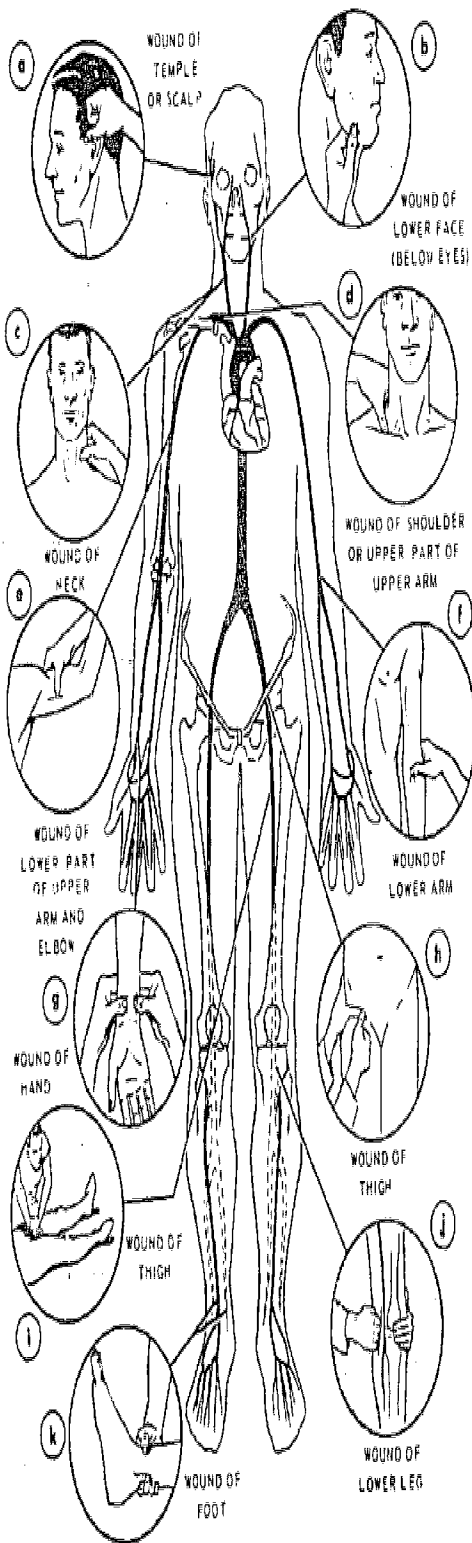

Figure 14. Pressure points for temporary control of arterial bleeding.
b. *Pressure points.* A pressure point is the place where the main artery to a wound lies close to the skin, and over a bone. Figure 14 shows you the main pressure points. To stop bleeding, press hard with your fingers on a pressure point between the wound and the heart. This is not a good method to use for a long time. You may want to use it just until you can get a direct pressure dressing ready.